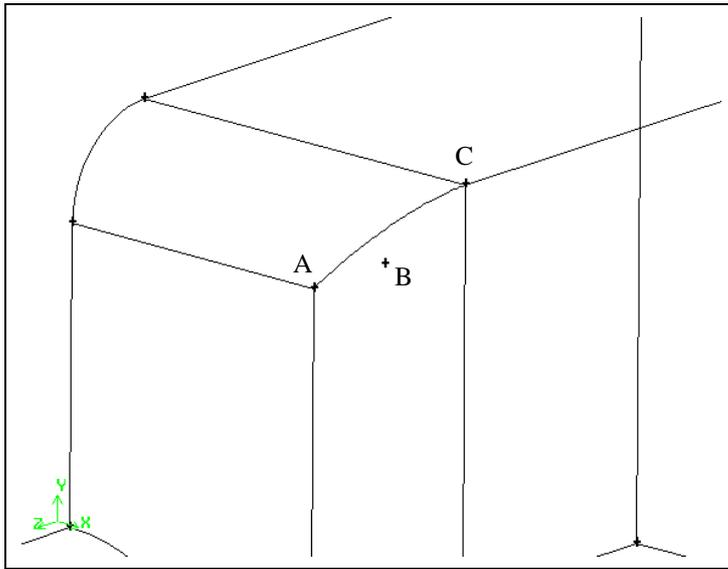

Figure 4-14: Vertices to be selected to create edges
The vertex will be visible in the graphics window as a white cross near where the two blended edges meet. See vertex B in Figure 4-14.
a) *Shift*-left-click the vertex marked A in Figure 4-14.
- b) *Shift*-left-click the vertices marked B and C in Figure 4-14, in order.